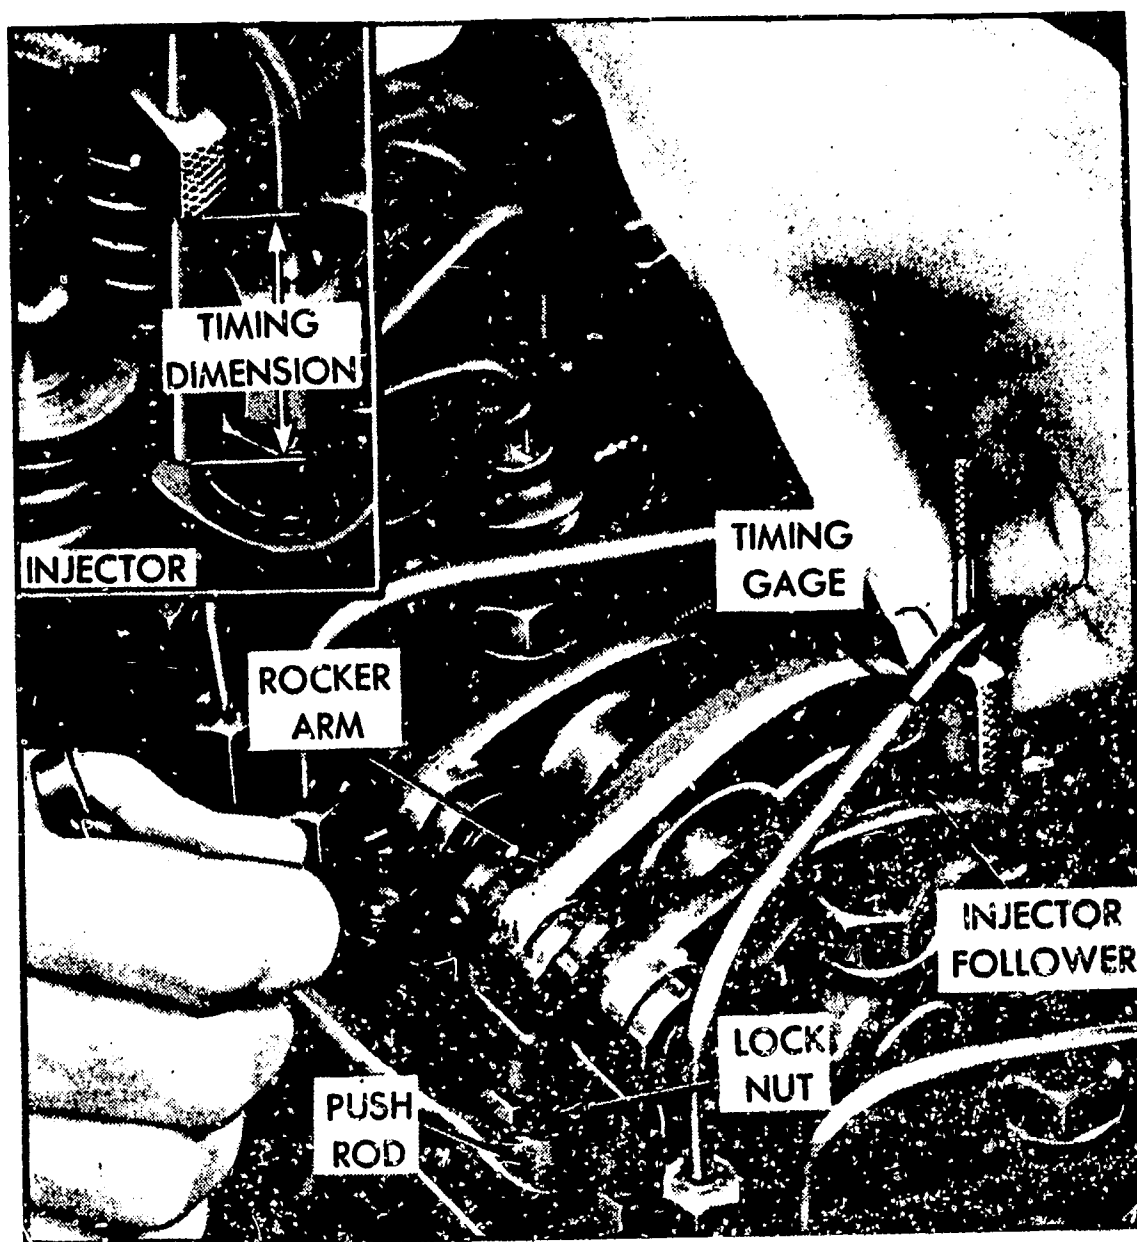

Fig. 2 - Inserting the injector timing gage.
3. Place the small end of the injector timing gage in the hole provided in the top of the injector body with the flat of the gage toward the injector follower, see Figure 2.